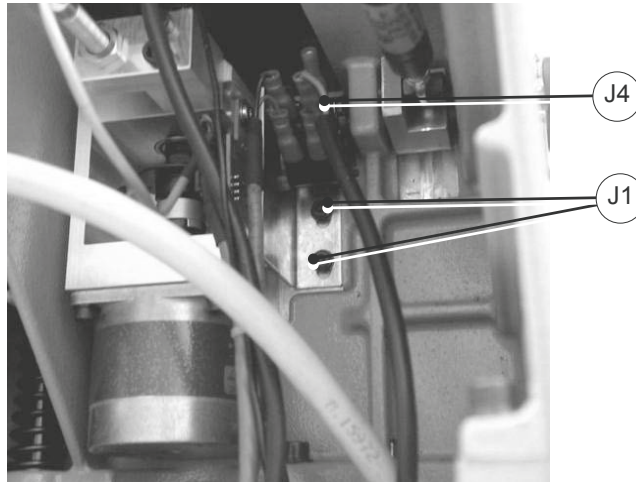

Fig. 62
- 3) Loosen the two screws (J1) and remove the microswitch support plate (Fig. 62).
- 8) Adjust the position of the plate so that when the safety shield (V) is moved the microswitches click.